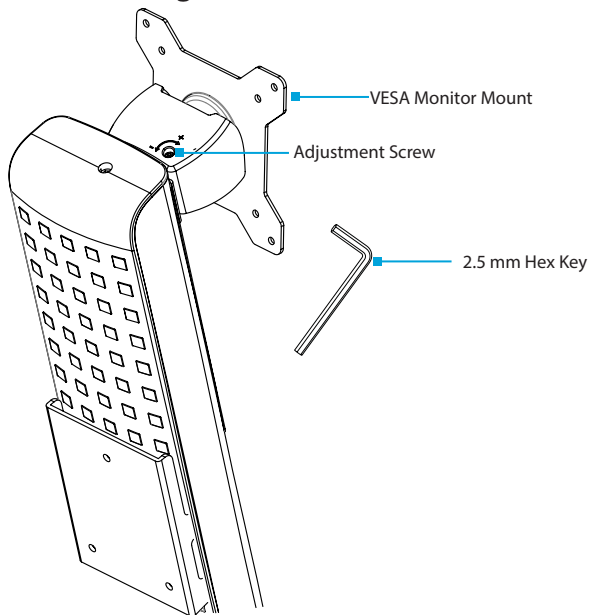

Figure 15
- Adjust the **Screw**, located in the top of the **VESA Monitor Mount**, to increase or decrease the tilt angle of the **Monitor**. (Figure 15)